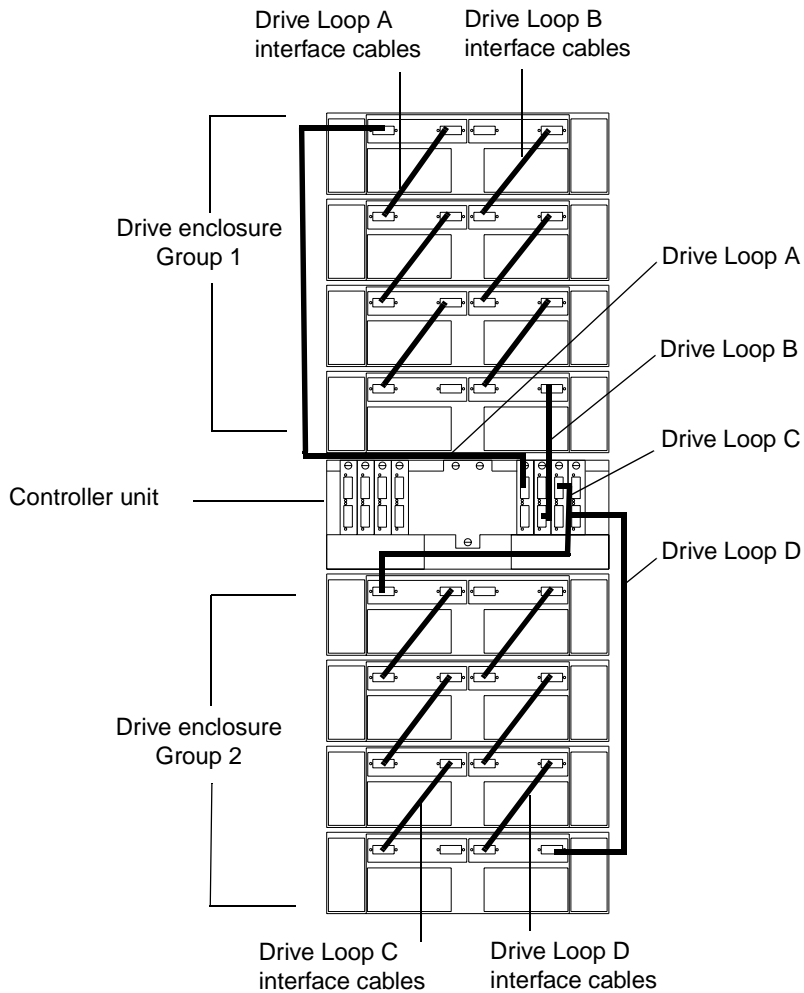

Figure 22. Two redundant drive enclosure groups
- 3 Connect drive Loop C to the controller unit, as shown in Figure 22.
- 4 Connect drive Loop D to the controller unit, as shown in Figure 22.